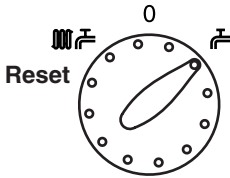

Fig. 5
5. **Position (ii)** In this position hot water will be provided when a tap or shower is turned on (Fig. 5).